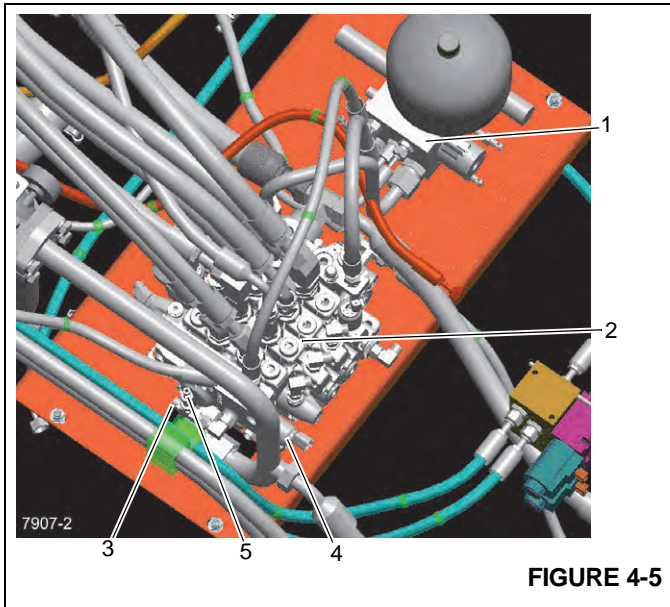

FIGURE 4-5
In the valve bank assembly compartment are the following two valve assemblies: the brake/steering manifold (1, Figure 4-5), and the main control valve (2, Figure 4-5).
1. With the engine shutdown and the parking brake set, install a 0 - 344.73 bar (0-5000 psi) pressure gauge onto the pilot test port (5, Figure 4-5) of the control valve.